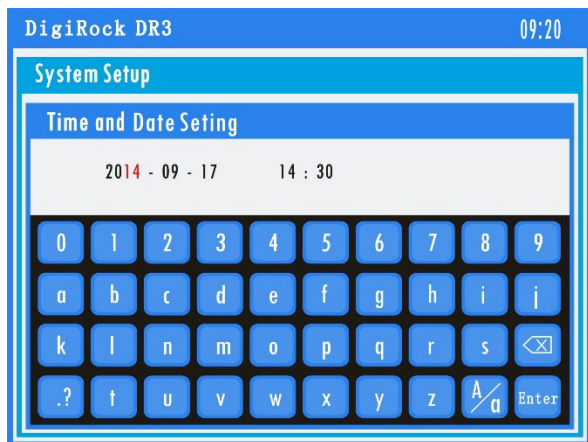

Fig 5-6 Time and Date Setup
- **Date Setup:** Click to modify year, month and date, click ENTER to update system time. (Fig 5-6).